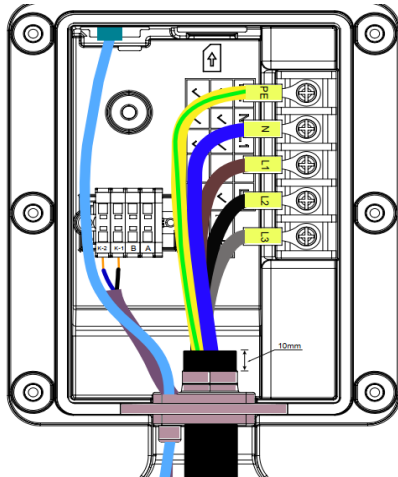
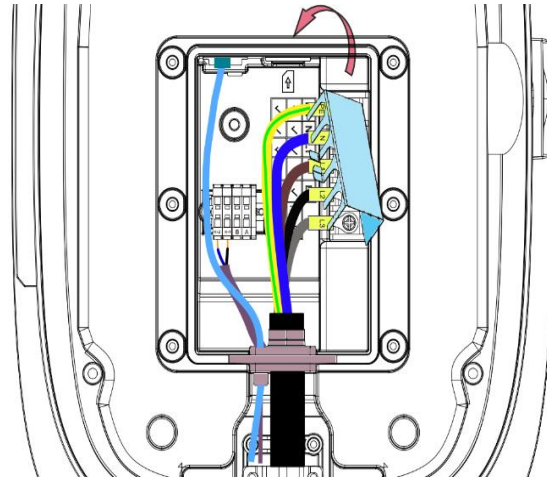

Figure. 11 Wiring diagram
Figure. 12 Restoring insulating shield
⑥ Crimp the cable inlet rubber plug to complete wiring operation, as shown in Figure. 11. Complete power cable wiring using a PH2 screwdriver with torque of 1.4-1.6Nm; connect the trip signal cable to the terminals K-1 and K-2 with an SL2 screwdriver. Then restore the insulating shield, as shown in Figure. 12.